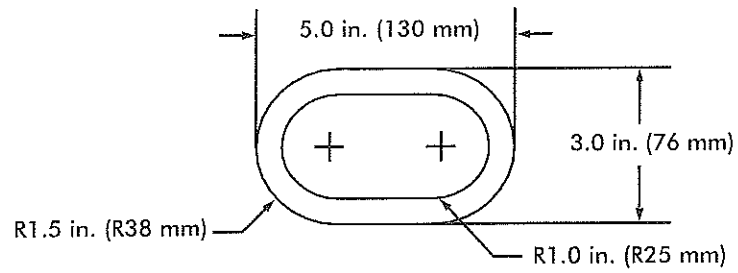
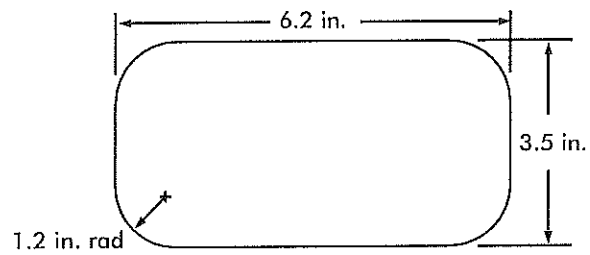

Figure B3. Toddler small torso template
Figure B4. Preschool- and school-age small torso template
The dimensions (see Figure B3 and Figure B4) of this template are based on the size of the torso of the smallest user at risk (5th percentile 6-month-old child for Figure B3 and 2-year-old child for Figure B4). If an opening is too small to admit the template, it is also too small to permit feet first entry by a child. Because children's heads are larger than their torsos, an opening that does not admit the small torso template will also prevent head first entry into an opening by a child.
Step 1: Select the appropriate small torso template based on the intended users of the playground (Figure B3 for toddler playgrounds, Figure B4 for preschool- and school-age playgrounds).
Step 1: Select the appropriate small torso template based on the intended users of the playground (Figure B3 for toddler playgrounds, Figure B4 for preschool-age and school-age playgrounds).
- Step 1: Select the appropriate small torso template based on the intended users of the playground (Figure B3 for toddler playgrounds, Figure B4 for preschool-age and school-age playgrounds).